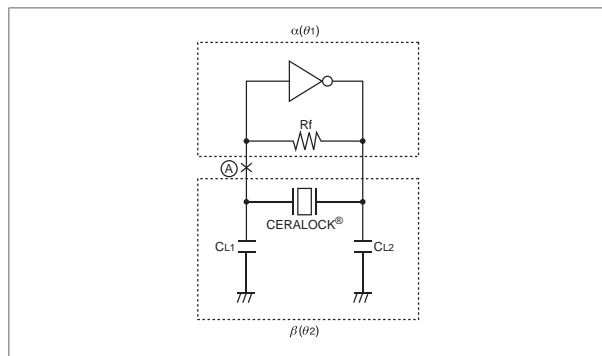

Fig. 2-8 Basic Oscillation Circuit with inverters
Fig. 2-8 shows the basic oscillation circuit with inverter. In open loop circuit by cutting at ① point, it is possible to measure loop gain G and phase shift θ .